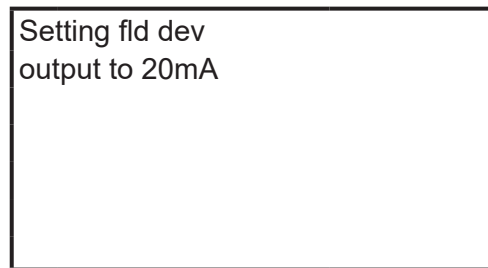

Figure 40 Message to start current adjustment
7. Next a message stating 'Setting fld dev output to 20mA' will appear. (Figure 40) By pressing F4 (OK), current adjustment will start and the device will commence outputting a current corresponding to 100% of the flow. To cancel, press F3 (ABORT) and proceed on to step10.